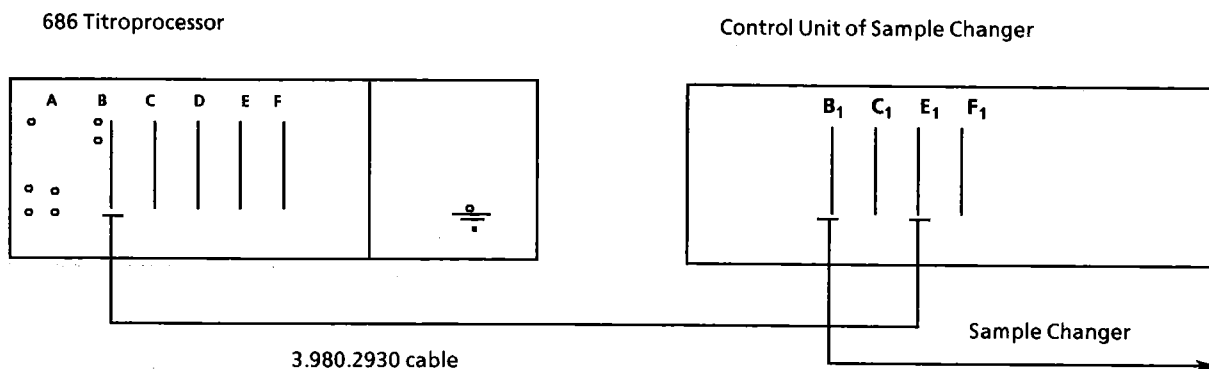

Fig. 4.2
3.540.2191 interface is available for the connection of a Sample Changer. The interface is inserted in slot B of 686 Titroprocessor and the Sample Changer is connected according to Fig. 4.2.